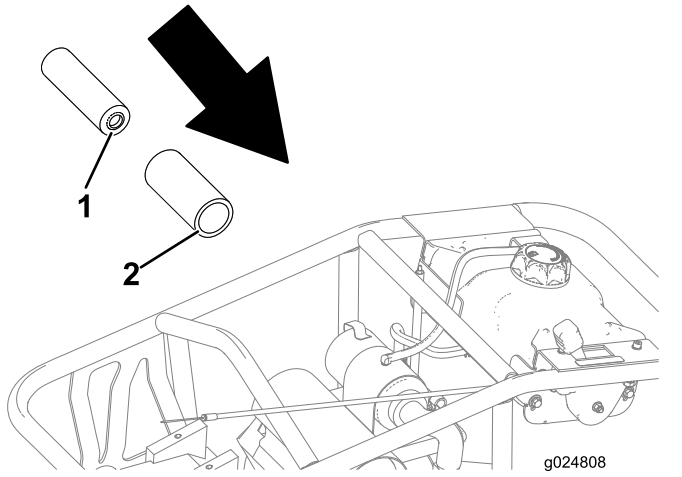

Figure 17
10. Install the air-cleaner elements and ensure that they are properly positioned (Figure 17).
Important: Ensure that the open end of the air-cleaner elements are facing inward toward the machine, as the machine will not run if the elements are not placed in the proper air orientation due to air restriction (Figure 17).